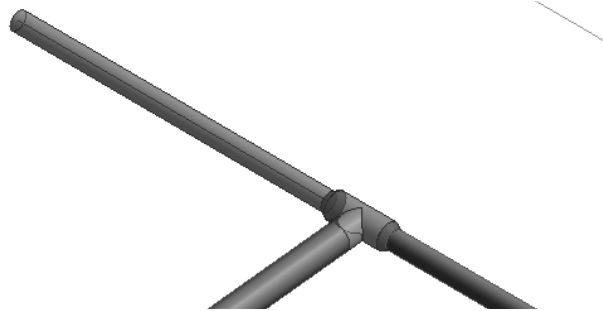

Figure 2–81
5. Delete the extra pipe and connectors between the pipes, as shown in Figure 2–81.